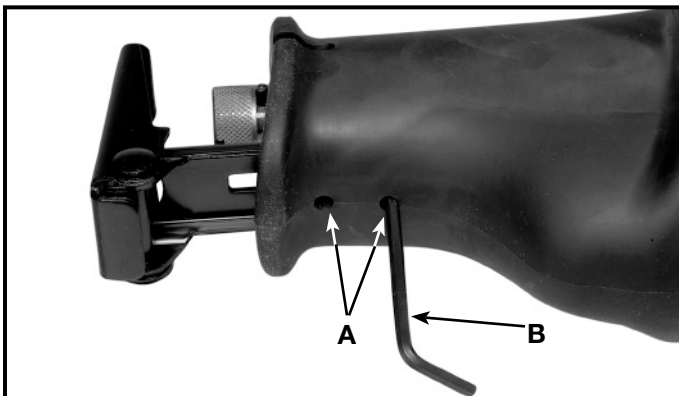

Fig. 9
The **Model 741** pivoting guide shoe is adjusted by loosening the two hex screws (with wrench supplied) located on the bottom of the front gear housing (A) Fig. 9. Loosen both screws enough to allow the pivoting guide shoe to move freely. Adjust to desired position and securely tighten both screws.